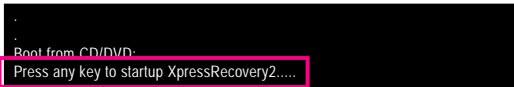

Figure 8
1. Boot from the motherboard driver disk to access Xpress Recovery2 for the first time. When you see the following message: Press any key to startup Xpress Recovery2 (Figure 8), press any key to enter Xpress Recovery2.